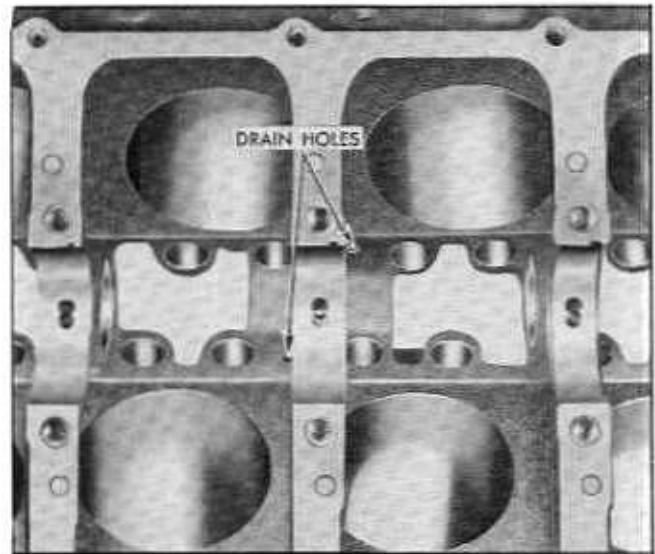

Fig. 6-57 Drain Holes Under Lower Crankcase Ventilator Baffle
h. Use wire to check two drain holes under lower crankcase ventilator baffle (Fig. 6-57).